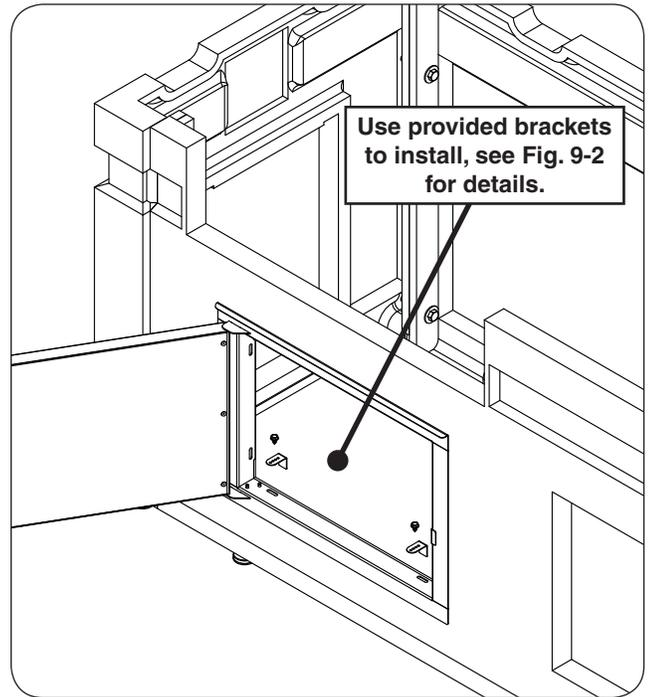
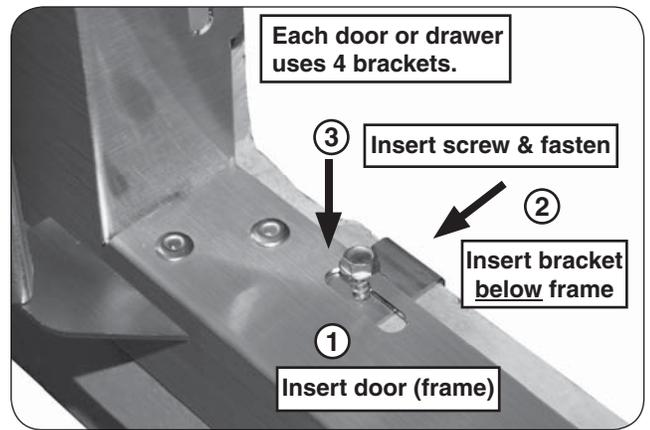

Fig. 9-1 Door / drawer install locations
Fig. 9-2 Door / drawer install detail
1. Insert your unit completely into the appropriate opening. Ensure it is flush against the exterior flush against the exterior wall (see Fig. 9-1 and Fig. 9-2, step 1).
2. The unit will have 2 oblong cutouts (or round holes) on both the top and bottom of its frame. Reach from within the island and insert a bracket where a cutout exists, **below the frame**. See Fig. 9-2, step 2.
3. While squeezing the rear of the bracket and the front of the door frame **firmly** against the concrete wall, insert a hex screw and tighten with the power drill and 5/16" hex driver (see Fig. 9-2, step 3). **DO NOT OVERTIGHTEN.**